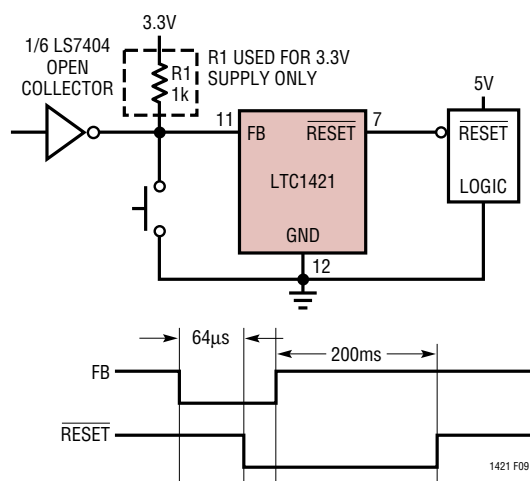

Figure 9. Generating a Soft Reset
A soft reset that doesn't cycle the supply voltage can be generated externally using Pin 11 (FB) as shown in Figure 9. For a 5V supply the FB pin is left floating to set the internal supply monitor trip voltage to 4.65V. However, if the FB pin is pulled to ground for more than 64 μ s via a push button or open-collector logic gate, the internal trip point will go to 5.88V and the RESET pin will pull low. RESET will remain low for 200ms after the FB pin is released. The RESET signal will also be pulled low when the voltage at the V_{OUTLO} pin dips below 4.65V for more than 32 μ s. When using a 3.3V supply, a 1k resistor must be connected from the FB pin to V_{CCLO} to set the internal trip point to 2.90V.